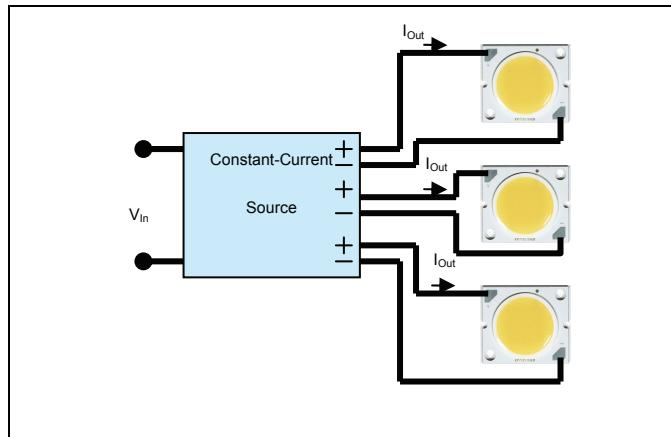

Figure 8: Multiple LED Arrays driven by a driver with multiple constant current channels
- LED drivers are also available which have multiple output channels. If a driver with multiple constant current output channels is selected, the number of channels needs to be sufficient to drive all of the LED Arrays (Figure 8).